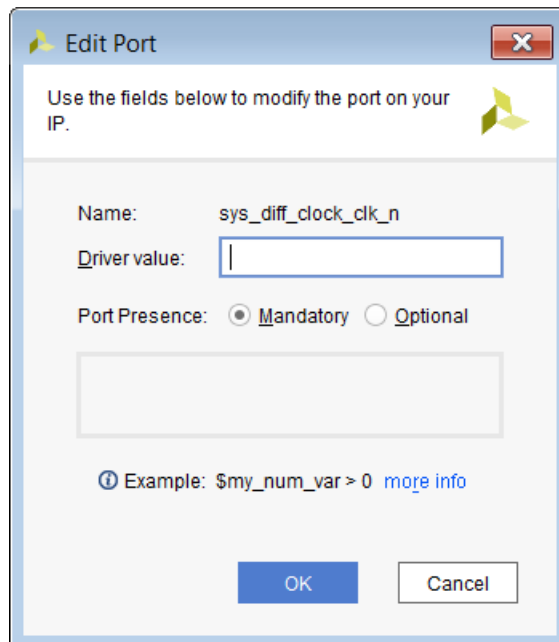

Figure 4-17: Edit Port Dialog Box
2. In the Edit Port dialog box, shown in Figure 4-17, set the following options: